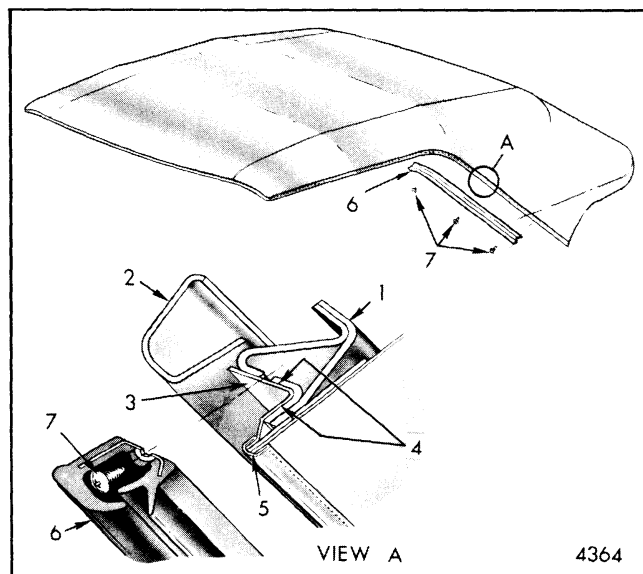

Fig. 8-56-Side Roof Rail Rear Weatherstrip and Quarter Retainer Attachment
4. With top lowered half-way, remove side roof rail rear weatherstrips. Mark reference locations of quarter retainers on side rails (Fig. 8-56) and detach cemented retainers from side rails.
- B. Apply trim cement to lower area of side roof rear rail and to top cover quarter retainer (flap). Center top (laterally) by aligning horizontal reference on each side at trimstick. Secure quarter retainer (flap) at bottom. Also, double staple or tack top cover at front of trimstick (Fig. 8-56 and View "Z", Fig. 8-54) using 12 ounce tacks or equivalent staples.
- C. Align top cover horizontal reference at center (in accordance with Steps A and B above) and staple or tack in place. Work left and right from center. Keep material in alignment and flat. Avoid stretching. Space staples or tacks about two (2) inches apart.
16. With top locked to windshield header, cement, align and secure upper areas of quarter retainers (flaps) to side roof outer rear rails. Re-check alignment of top cover and align quarter retainer seams with edges of side roof rear rails. Remove all fullness from rear of top cover (Fig. 8-56). A forward draw on cover outer sides will aid this operation. Align quarter retainers to each rear rail and cement securely in place. Top cover binding at quarter retainers should not curl away from rear rail.